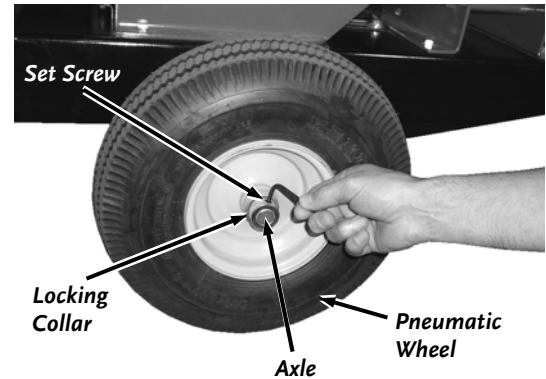

Figure 43
2. Loosen the Set Screw with a 5/32" allen wrench and remove the Locking Collar (**Figure 43**).